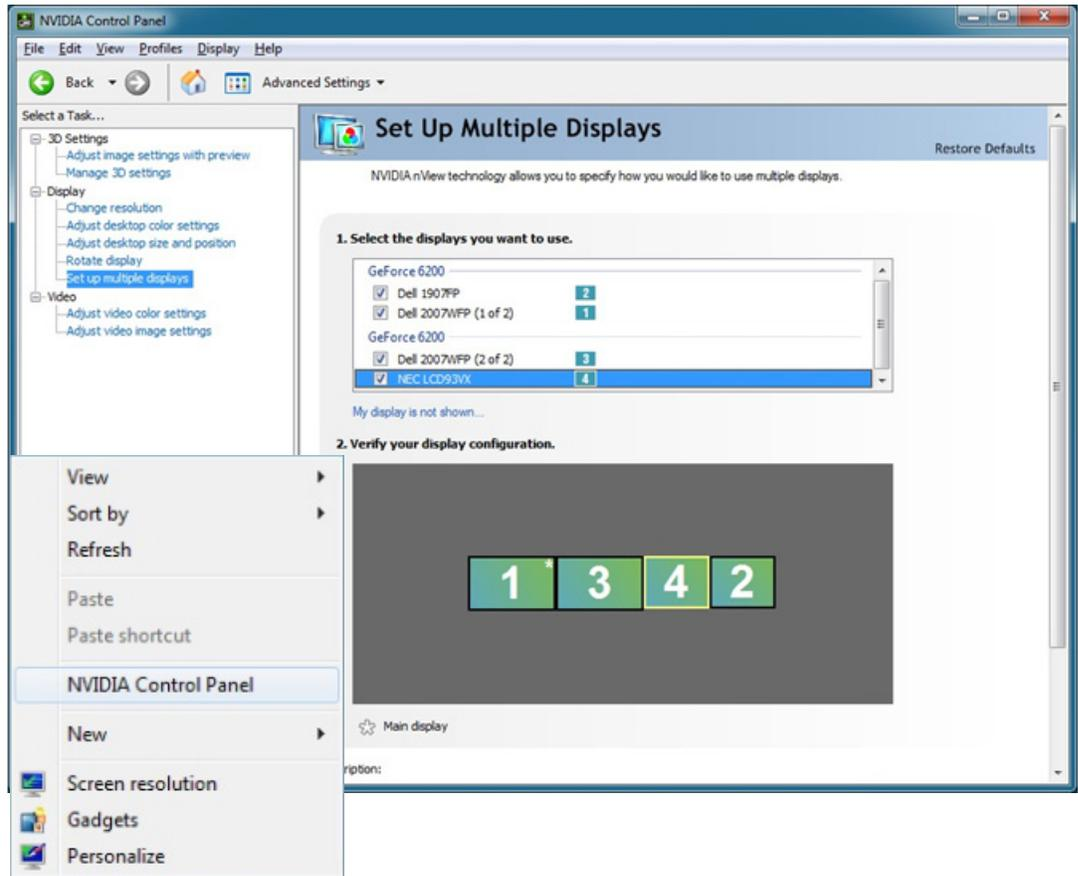

Figure 7-12 NVIDIA Control Panel
- b. Right click and select **NVIDIA Control Panel** to change the display settings, such as the resolution and multi-monitoring (Figure 7-12).